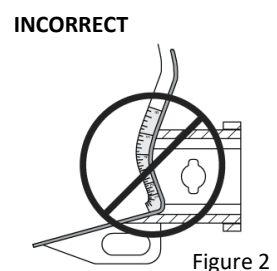

Figure 2
- Do not measure from visible bumper front of corner, upwards (Figure 2).